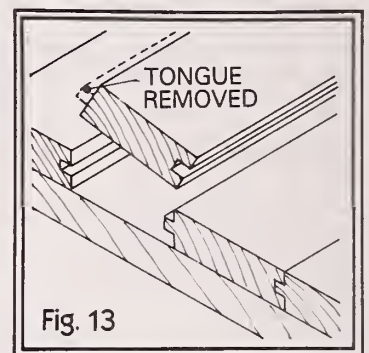

Fig. 13
4. Place the remaining boards in a similar manner until you get to the final board to be replaced. The final board must have the tongue removed (fig. 13). You will now face-nail this last strip and countersink the nails. Fill the nail holes with wood filler and wipe away the excess with a cloth soaked with solvent. Finish the surface of the new flooring to match the rest of the floor.